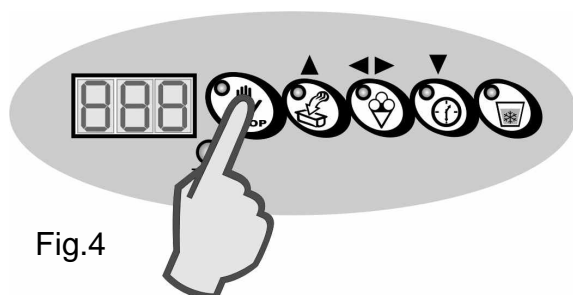

Fig.4
8. To exit programming and save the changed press the “STOP” key. (fig. 4)